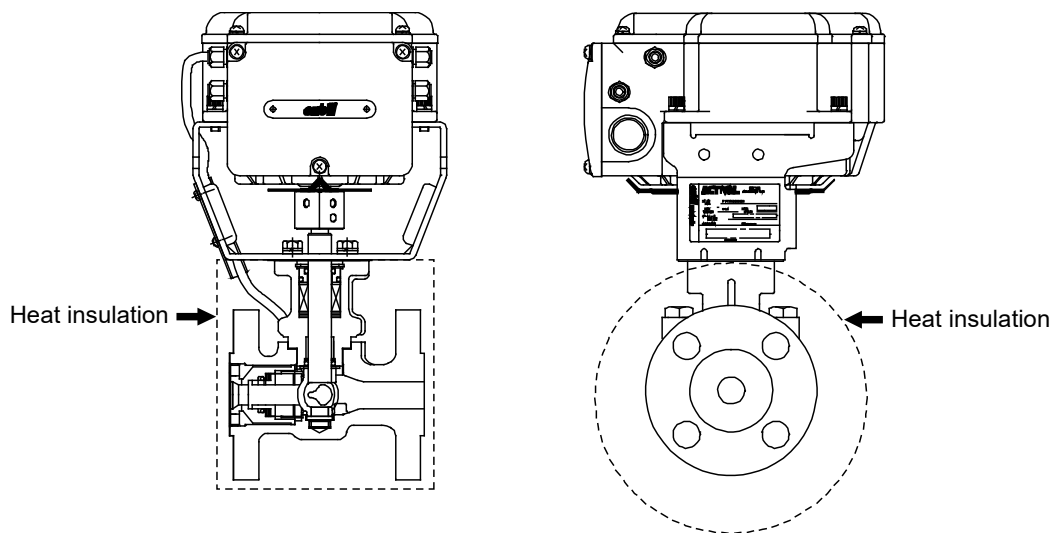

Figure 6. Heat insulating
- Apply heat insulation as illustrated by [] in Fig. 6.